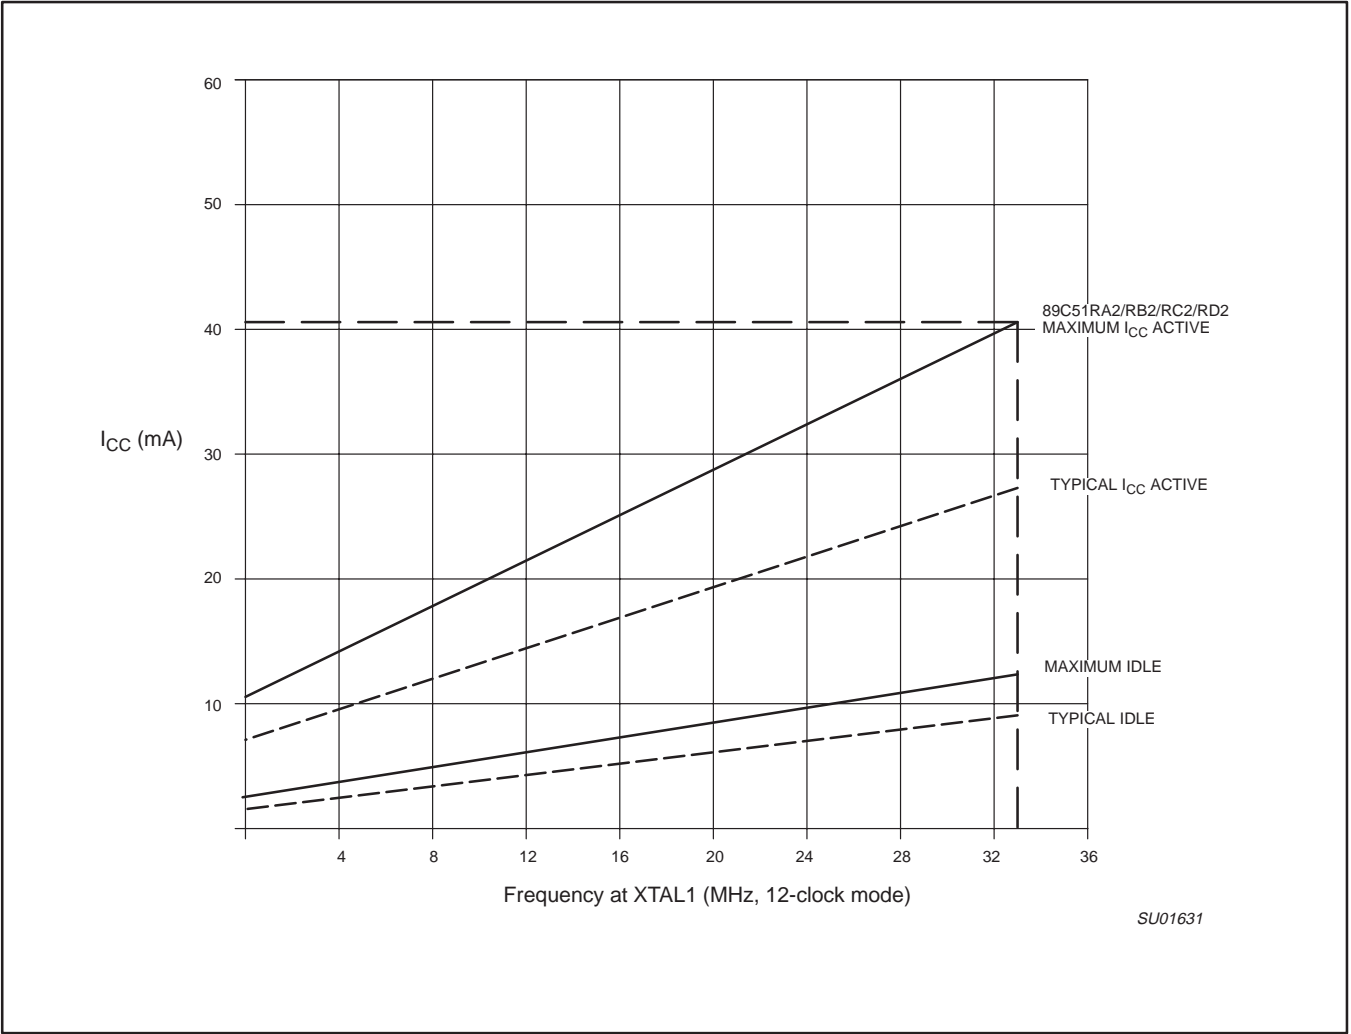

Figure 49. I_{CC} vs. FREQ
- See Figures 52 through 55 for I_{CC} test conditions and Figure 49 for I_{CC} vs Freq.